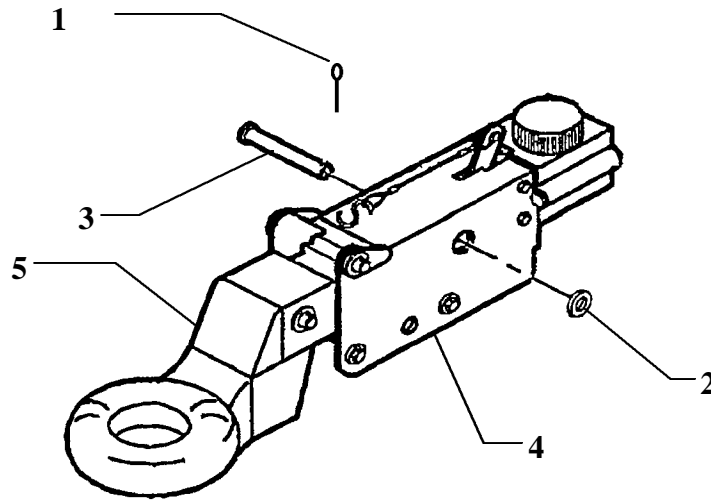

Figure 1
1. Remove cotter pin (1), flat washer (2) and master pin (3) from housing (4). Discard cotter pin and master pin. (figure 1)
2. Pull inner slide (5) from housing (4); master rollers are on either side of damper inside the inner slide and will be discarded in step 4. (figure 1)